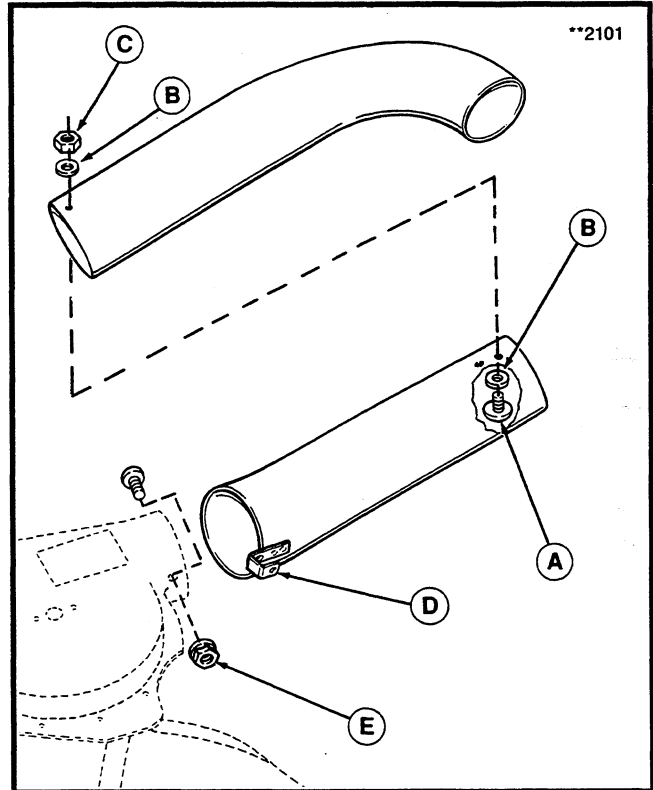

Figure 4
4. If upper and lower tube have been disassembled, assemble tubes with trusshead screws (A, figure 4), washers (B) and hex nuts (C).
5. Install tube assembly as far as possible into cover opening so that lower tube can be installed on blower housing. Latch lower tube clip (D, figure 4) onto bolt and nut (E).